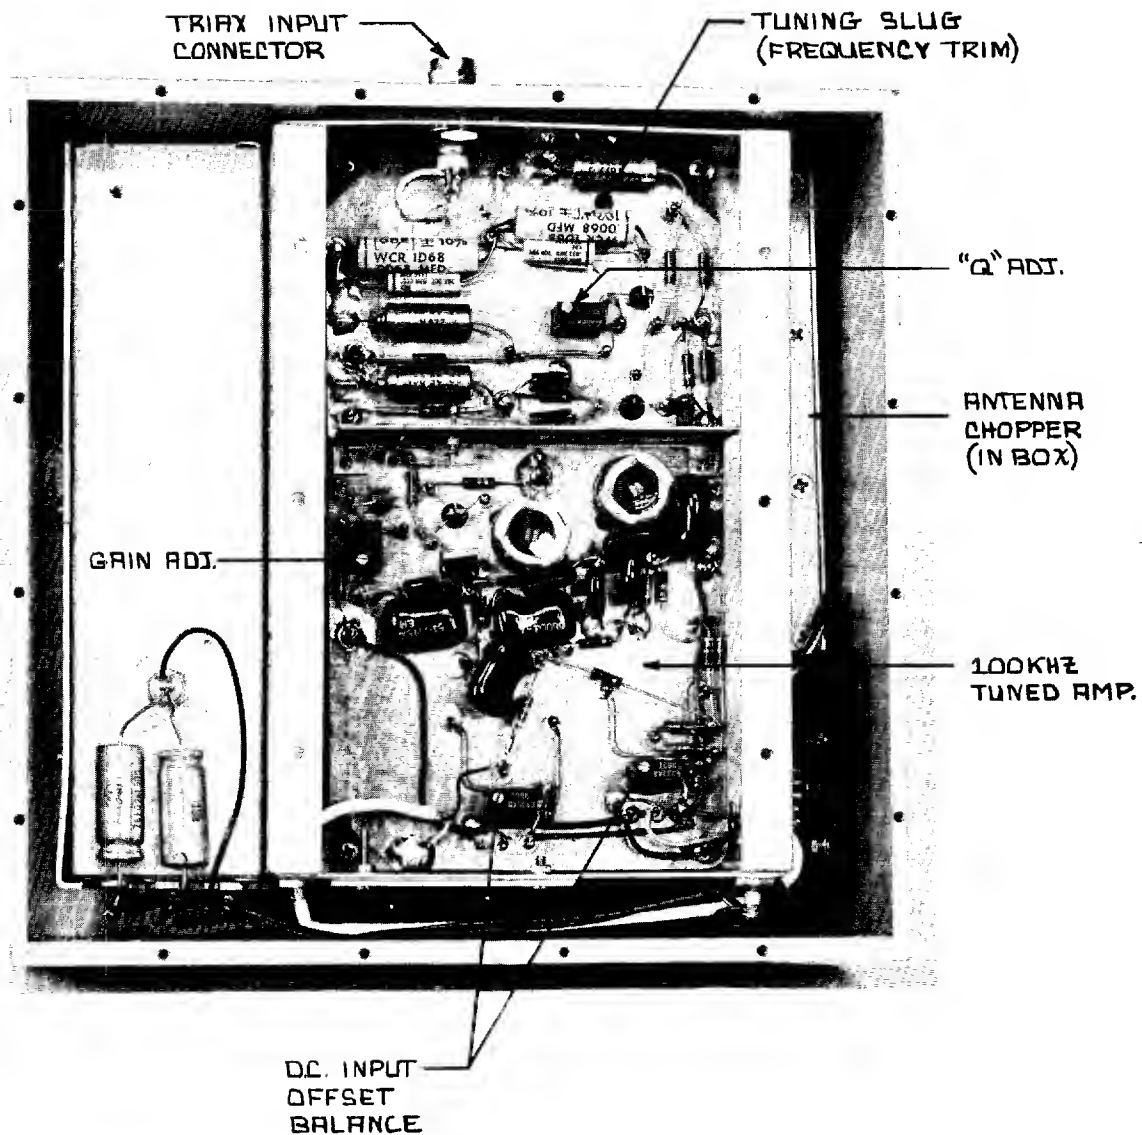

Figure 19. Target Antenna Base (Preamplifier Module) with
- a. Remove covers as shown in Figure 19.
- f. If for example the X amplifier is to be calibrated first, it would be unplugged and the calibrator plugged in. The X target video output will be observed on the oscilloscope. Use a small screwdriver and carefully peak the output response by adjusting the tuning slug shown in Figure 19.
- h. The "gain adjust" potentiometer changes the gain of the last ac stage of the amplifier. It may be necessary to adjust each control to make all three amplifiers have the same output levels. The dc input off-set balance potentiometers shown in Figure 19 need adjustment only if the operational amplifiers are replaced.
- c. Remove the chassis side and amplifier cover. Refer to Figure 19 for parts location as the layout is the same as the target preamplifier. Tune the same way as the remote antenna preamplifiers. NOTE: Turn transmit modulation off, sweep width to zero, adjust center frequency to a convenient spot, observe signal on "RECEIVER VIDEO", tune for maximum output.
The 100 kHz driver (See Figure 19) has a fine-frequency control and a square-wave symmetry adjustment. It is preferred not to adjust the frequency of this circuit but adjust the 3 target preamplifiers instead. If components are replaced, then the frequency adjustment should be made and the square wave adjusted so the on-off time periods are equal.